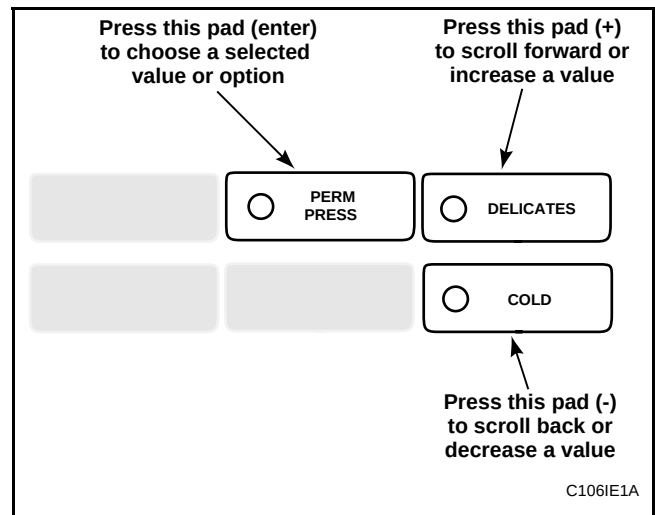

Figure 15
5. Press the DELICATES (+) or the COLD (-) keypad to increase or decrease the current number of coins displayed in the VFD to the desired number of coins. See **Figure 15**.